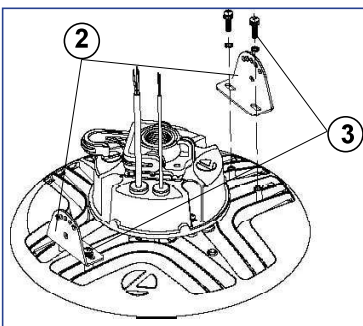

Figure 3
2.1 Remove four rubber plugs from fixture housing holes (see Figure 3)
2.2 Install Mounting Bracket base (2) onto fixture housing aligning mounting holes with holes on housing. Install provided mounting screws (3) to attach Mounting Bracket bases to fixture housing. (See Figure 3).